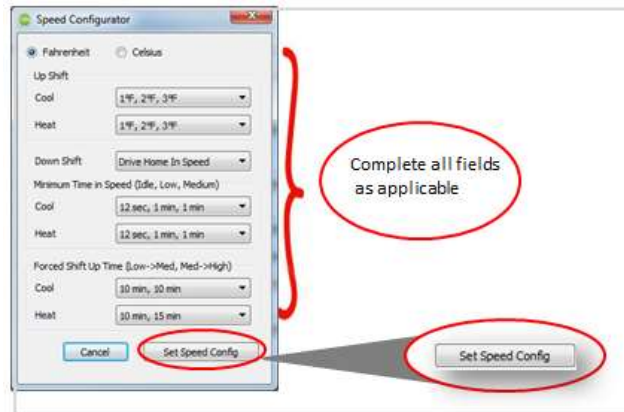

Figure 10
13. Complete the fields on this screen according to how long an HVAC will run in each mode (Figure 10).